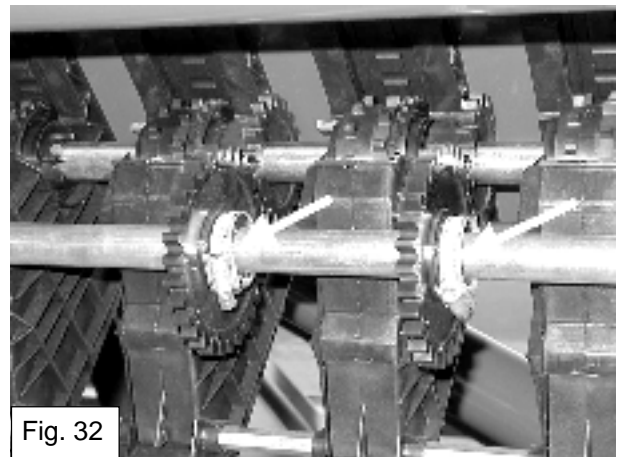

Fig. 32
- Loosen the clamping bands that secure the gearwheels to the countershaft so that they can be slid sideways (fig. 32).